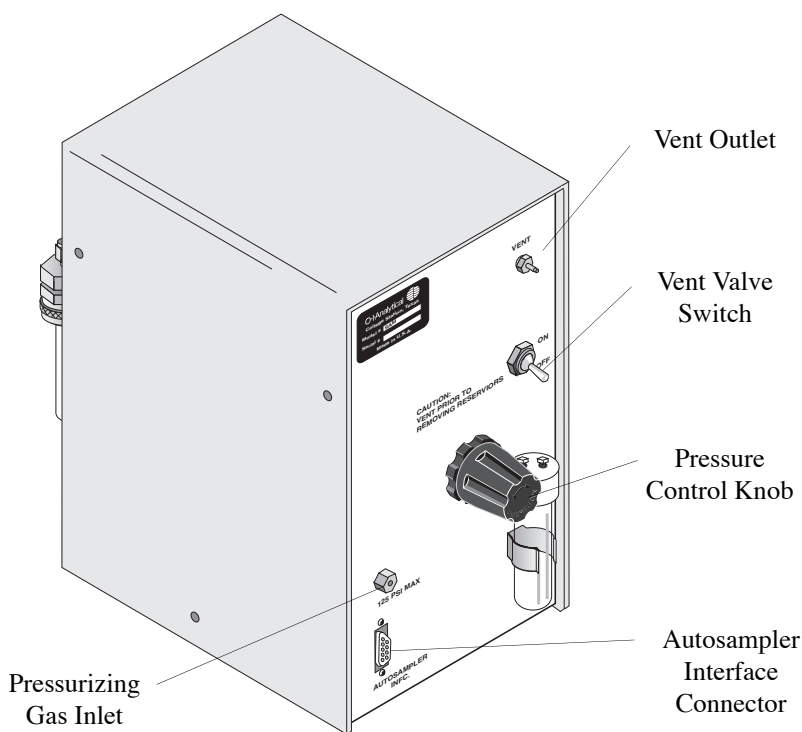

Figure 5.2. SAM Option, Back View
- a. Flip the vent valve switch located on the back of the SAM to the ON position, depicted in Figure 5.2.